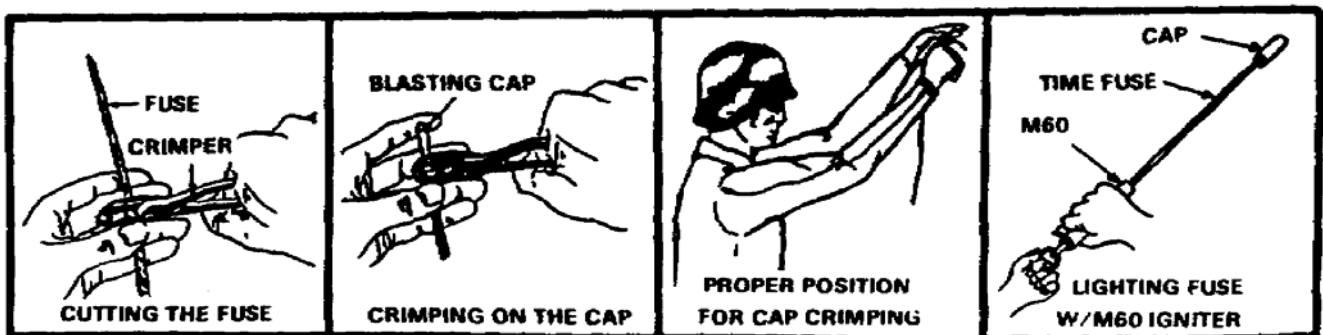

Figure 19. Procedures for crimping and igniting.
**A crimp too near the explosive in the blasting cap may cause detonation. Point the cap out and away from your body during crimping (Figure 19).**